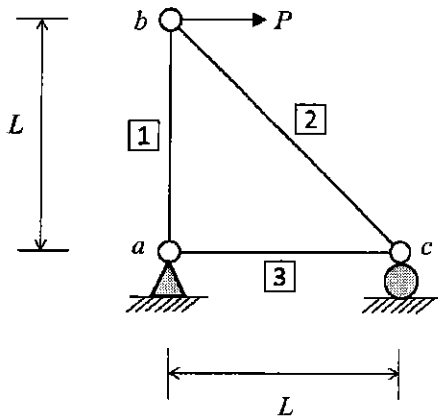

Fig. 1
1. As shown in Fig. 1, each member of the truss has a uniform cross-sectional area  $A$  and a constant Young's modulus  $E$ . The original lengths of [1] and [3] are  $L$ , while the original length of [2] is  $\sqrt{2}L$ . Assume each member is pin connected. This simply supported truss is subjected to a horizontal force  $P$  at point  $b$ . (a) Determine the force in each member of the truss. (8%); (b) Determine the deformation in each member of the truss. (8%); (c) Determine the displacements at points  $b$  and  $c$ . (9%)